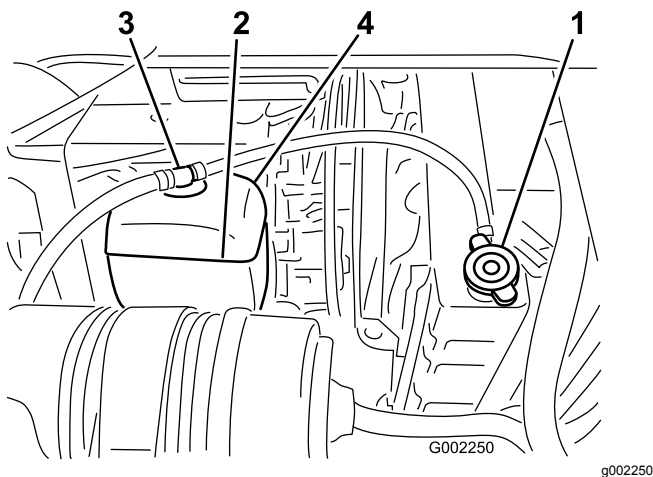

Figure 53
3. Carefully remove the radiator cap and the expansion tank cap (Figure 53).